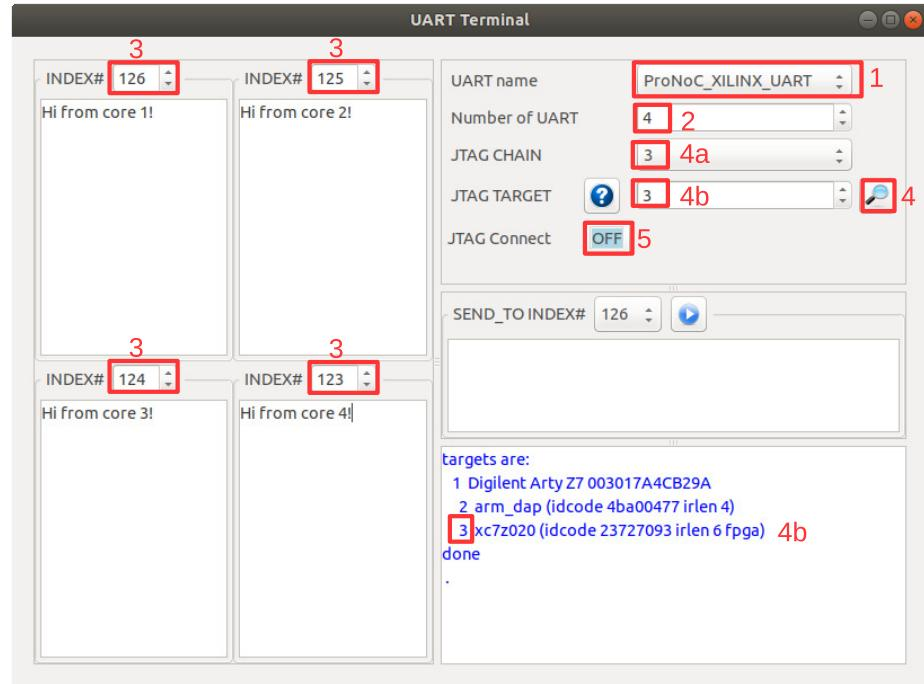

Figure 11.1: Uart terminal snapshot (Xilinx FPGA configuration).
Figure 11.1 illustrates the snapshot of the UART GUI.The following settings are required in order to connect to UART modules:
- (b) For Xilinx FPGAs you need to set the FPGA device target number in the JTAG chain. Figure 11.1 shows an example for Digilent Arty-Z7 XILINX FPGA board. The FPGA device is `xc7z020` which is the *3rd* target in jtag chain.